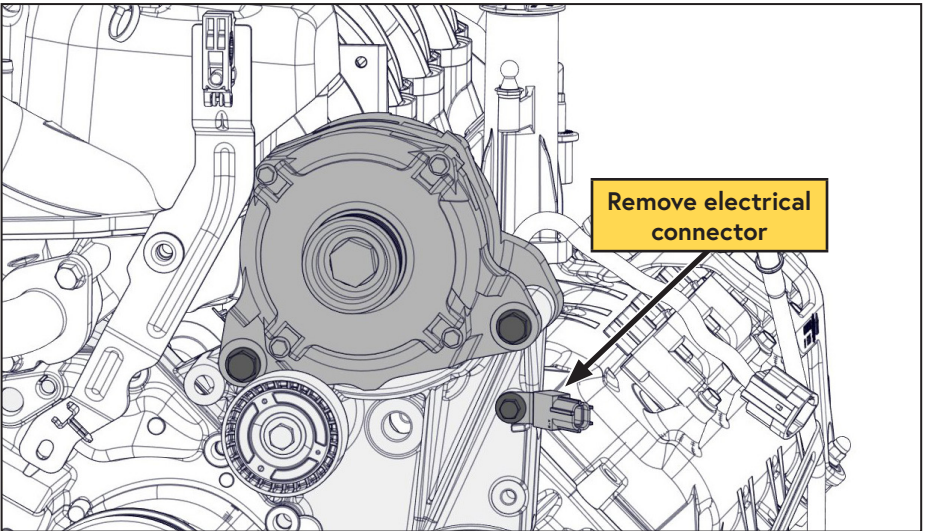

Figure 12 — Remove alternator
- ☐ Disconnect and remove the alternator. Set the alternator and fasteners aside (Figure 12).
- ☐ Remove the electrical connector secured to the bracket, shift the connector away and set the fastener aside (Figure 12).